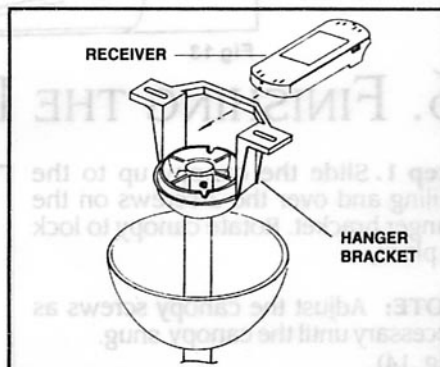

FIG. 12
**Step 1.** (Fig. 12) Insert the receiver unit into the hanger bracket with the flat side of the receiver facing the ceiling.